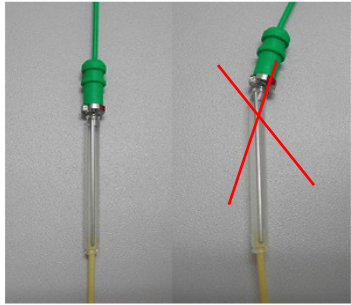

Figure 30
11. After completion of heater cycle, wait an additional 60 seconds while assembly cools. If assembly bends redo heater cycle. (Fig. 30)